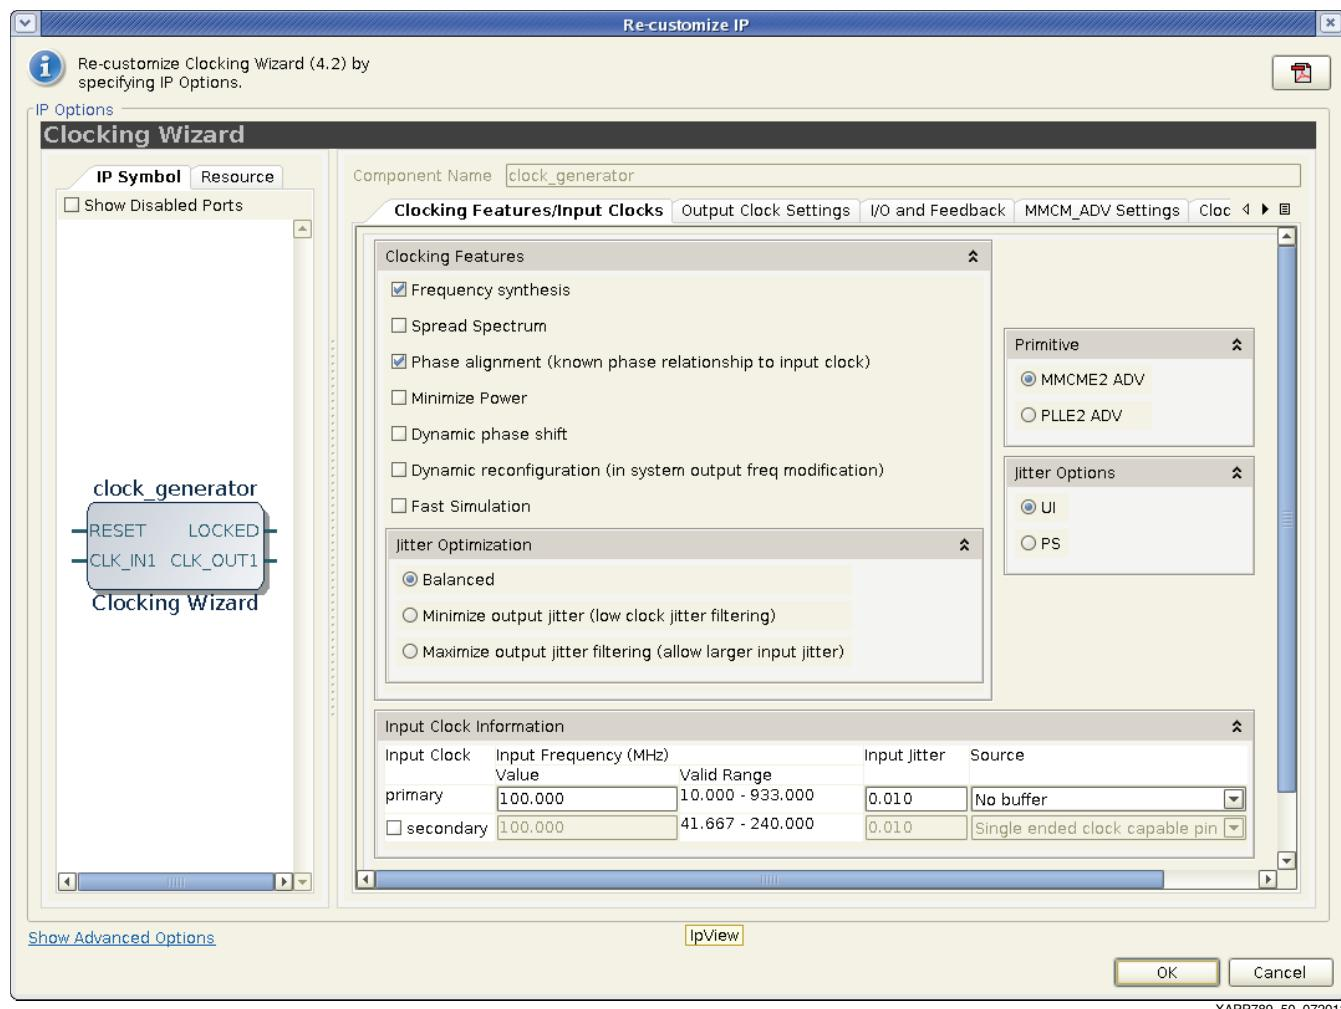

Figure 50: Clocking Wizard Features and Input Clocks Settings
41. Click the **Clocking Features/Input Clocks** tab and make the following settings (Figure 50):